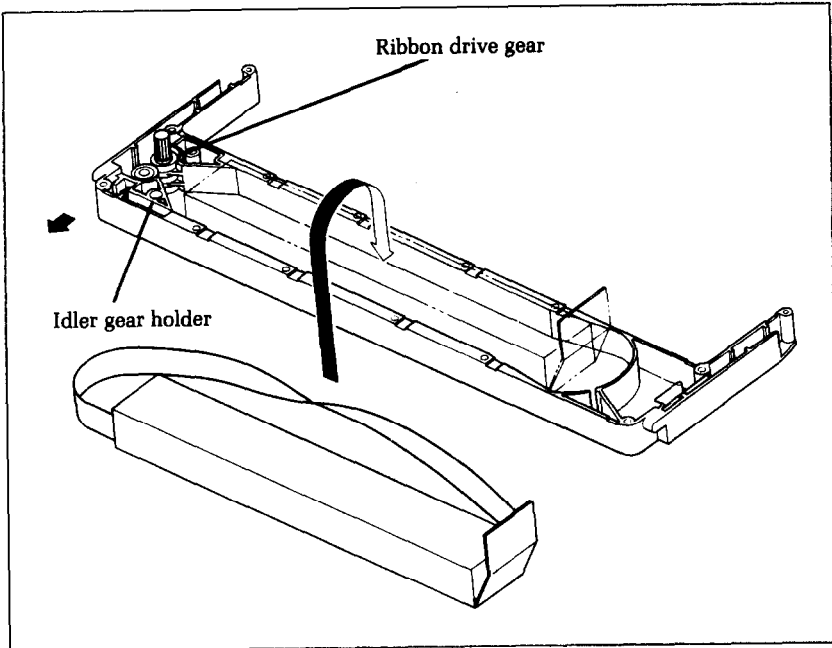

Figure 11-2. Replace the ribbon sub-cassette.
4. Press hard against the end of the idler gear holder to make a gap between it and the ribbon drive gear, and remove the old ink ribbon sub-cassette. See Figure 11-2.
6. Remove the wrapping from the new ribbon sub-cassette, remove the adhesive tape attached to the joint, and insert the sub-cassette into the ribbon cassette as shown in Figure 11-2.